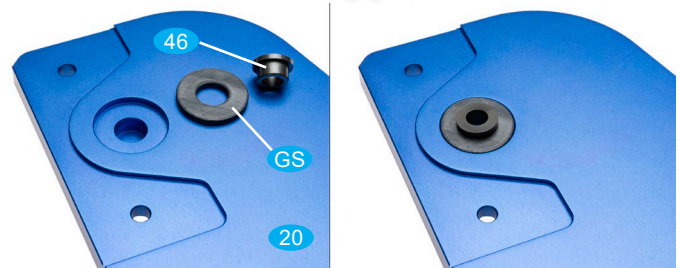

Fig. 1a: Mounting the plain bearing in the right portal cheek
- Press the plain bearing **46** together with the spacer ring **GS** into the bearing hole in the right portal cheek **20** (see Fig. 1a).